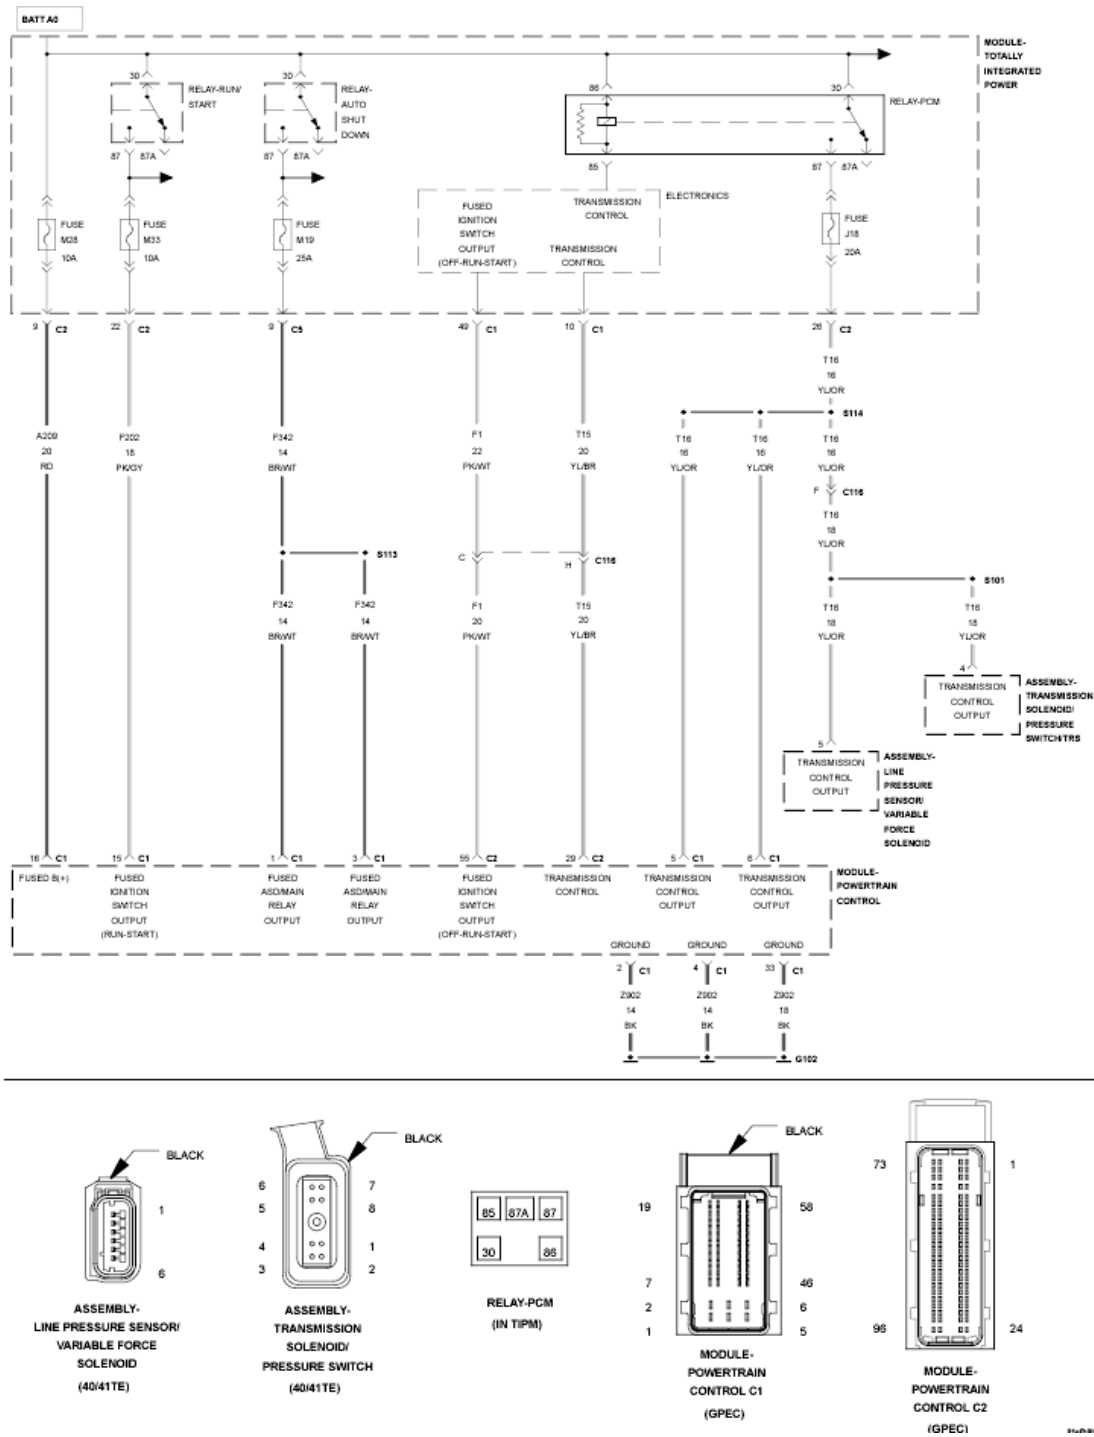

Fig. 69: TCM Power Control - Circuit Schematic
2. Using **Fig. 69** as a guide, inspect the wiring and connectors specific to this circuit.